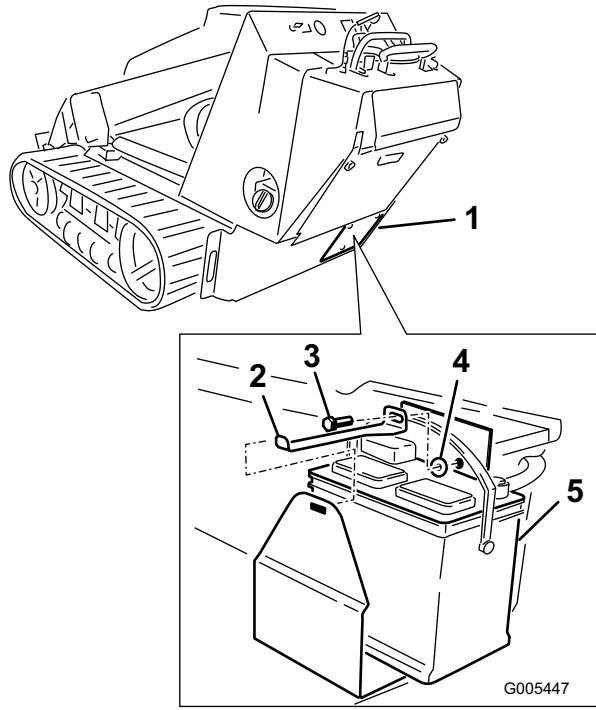

Figure 2
1. Remove the battery access cover (Figure 2).
2. Remove the battery from the machine (Figure 2).